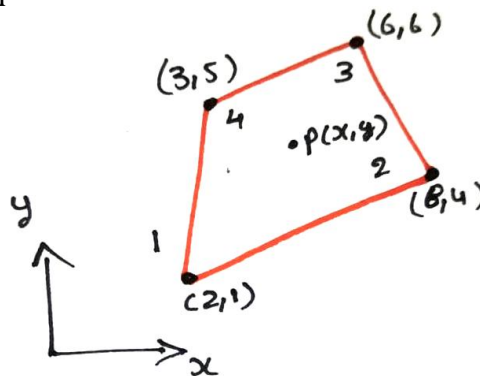

Figure.3
6. a) For the isometric element shown in figure.3, the global coordinates of point P are (6,4). The loads 10 kN and 12 kN are acting in x and y directions on point P. Evaluate the nodal equivalent forces. [9]